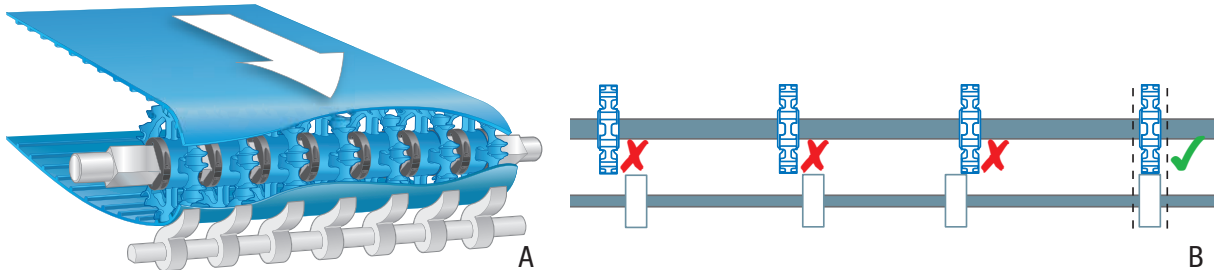

Figure 14
- Align limiters with drive sprockets so they can support the seated belt (Figure 14, B).
- Place the limiter support structure laterally across the belt width and parallel to the drive shaft (Figure 14, A).
- For spaced or stacked sprockets, align limiters with sprockets (Figure 14, B) with a maximum 3 in (76 mm) centerline spacing (Figure 14, A).